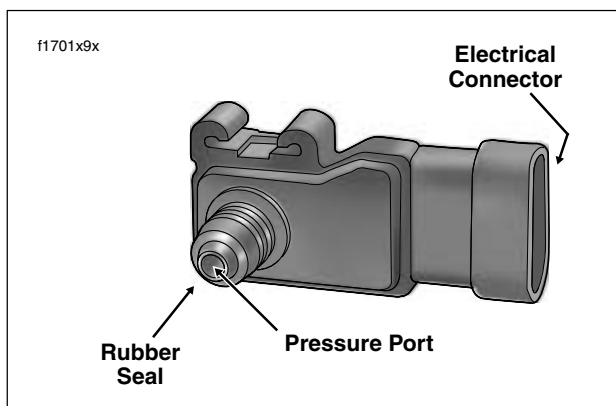

Figure 9-35. Manifold Absolute Pressure Sensor
- Pull pressure port from hole in induction module. See Figure 9-35.
- If reusing sensor, inspect rubber seal on pressure port for cuts, tears or signs of deterioration. Replace as necessary. See Figure 9-35.